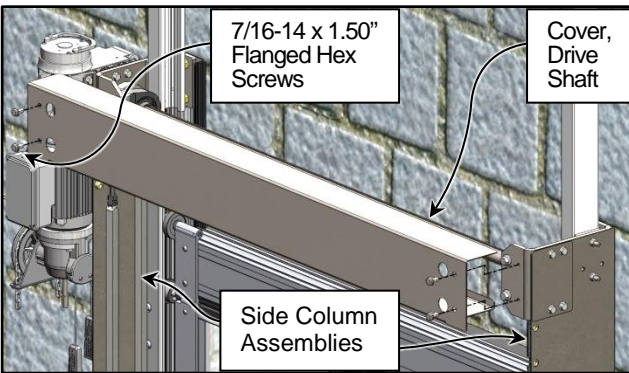

Figure 93
3. Install covers to the top drive shaft assembly as required. (See Figure 93)